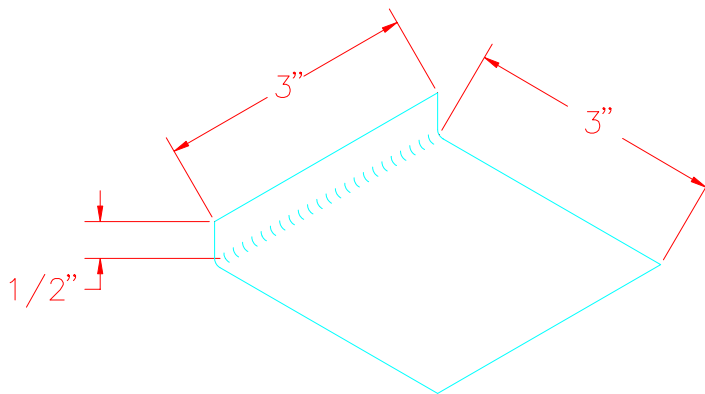

Figure 15.8.4
5) Make a hanger support bracket (FUS-69) from .032 material (W-143). Figure 15.8.4.